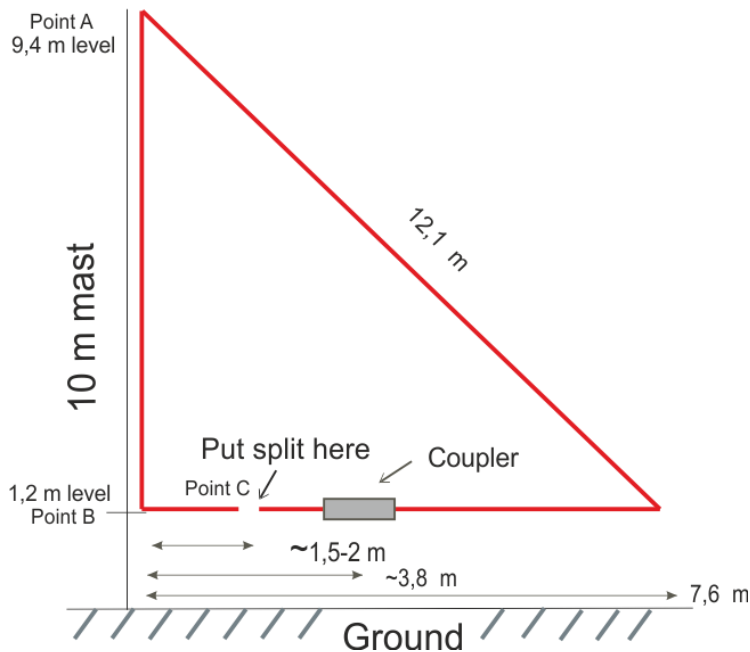

Figure 1: Showing one loop with lengths and measures of important parts.
2. With the mast on the ground. Start inserting one wire end from the top (point A Figure 1.) and pull it through (a total of 9,5 meters) all distance plates. Continues so that one end extends about 1,5-2 m from point B (lowest mast position above ground) towards point C.